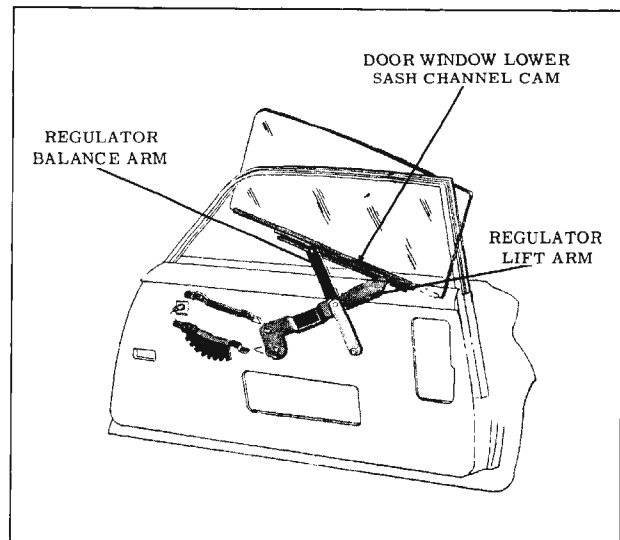

Fig. 16-249 Door Window Removal
2. The effort required to open or close the ventilator may be increased or decreased by straightening washer tab and tightening or loosening the adjusting nut. (Fig. 16-249)
4. Carefully lift window assembly upward and forward to disengage regulator arm(s) from lower sash channel cam and remove window from door on outboard side of door upper frame. Figure 16-249 shows window removal on "17" and "27" styles and is typical of "19" and "35" styles.